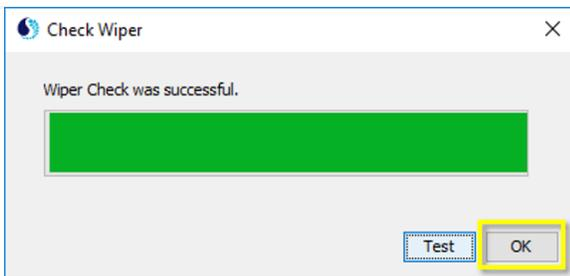

Figure 44. Select "OK" to Complete Wiper Test
**STEP 5** | Select "OK" when the wiper check is complete (Figure 44).